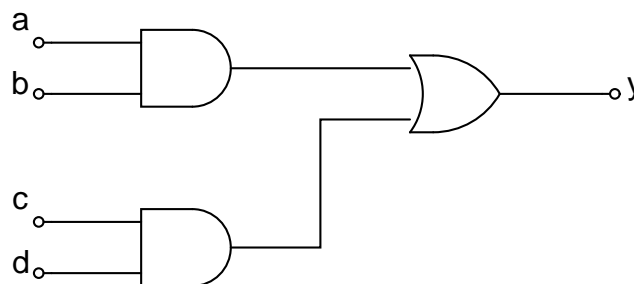

Figure 2: A simple logic circuit to be implemented on Krypton
Quartus II is the IDE provided by Altera for the user to write their HDL code (VHDL or Verilog) to target a digital system designed to be implemented on a target PLD. The IDE allows for code compilation, followed by generating a programming file for a specific target PLD (a CPLD or and FPGA). Quartus II has a free subscription/web edition that can be used. Suppose we wish to design and implement on Krypton, the simple logic circuit shown in Figure 2. This section provides a step-by-step method for doing the same.
3. This opens up 'Page 1'. Here, you need to specify a working directory for your project. Click **Browse (...)** to create a new folder for this project. Next specify the project name and top level design entity. **Important:** This is a very critical step in your design. Top level design entity refers to the name of the entity in your HDL code (if you are using VHDL) or name of the module (if you are using Verilog) which you wish to implement. By default the entity name follows the same name as the project. It is preferred not to change this. Since we wish to implement the circuit in Figure 2, name the project as **myLogicCkt**. The top level entity is also named **myLogicCkt** by default. Click **Next**.